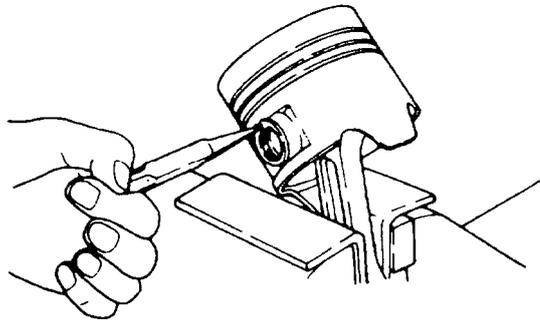

Figure 44 Installing the Snap-rings
- s. Install the gudgeon pin retaining snap-rings into the grooves in the piston (Figure 44) ensuring that they are seated correctly.